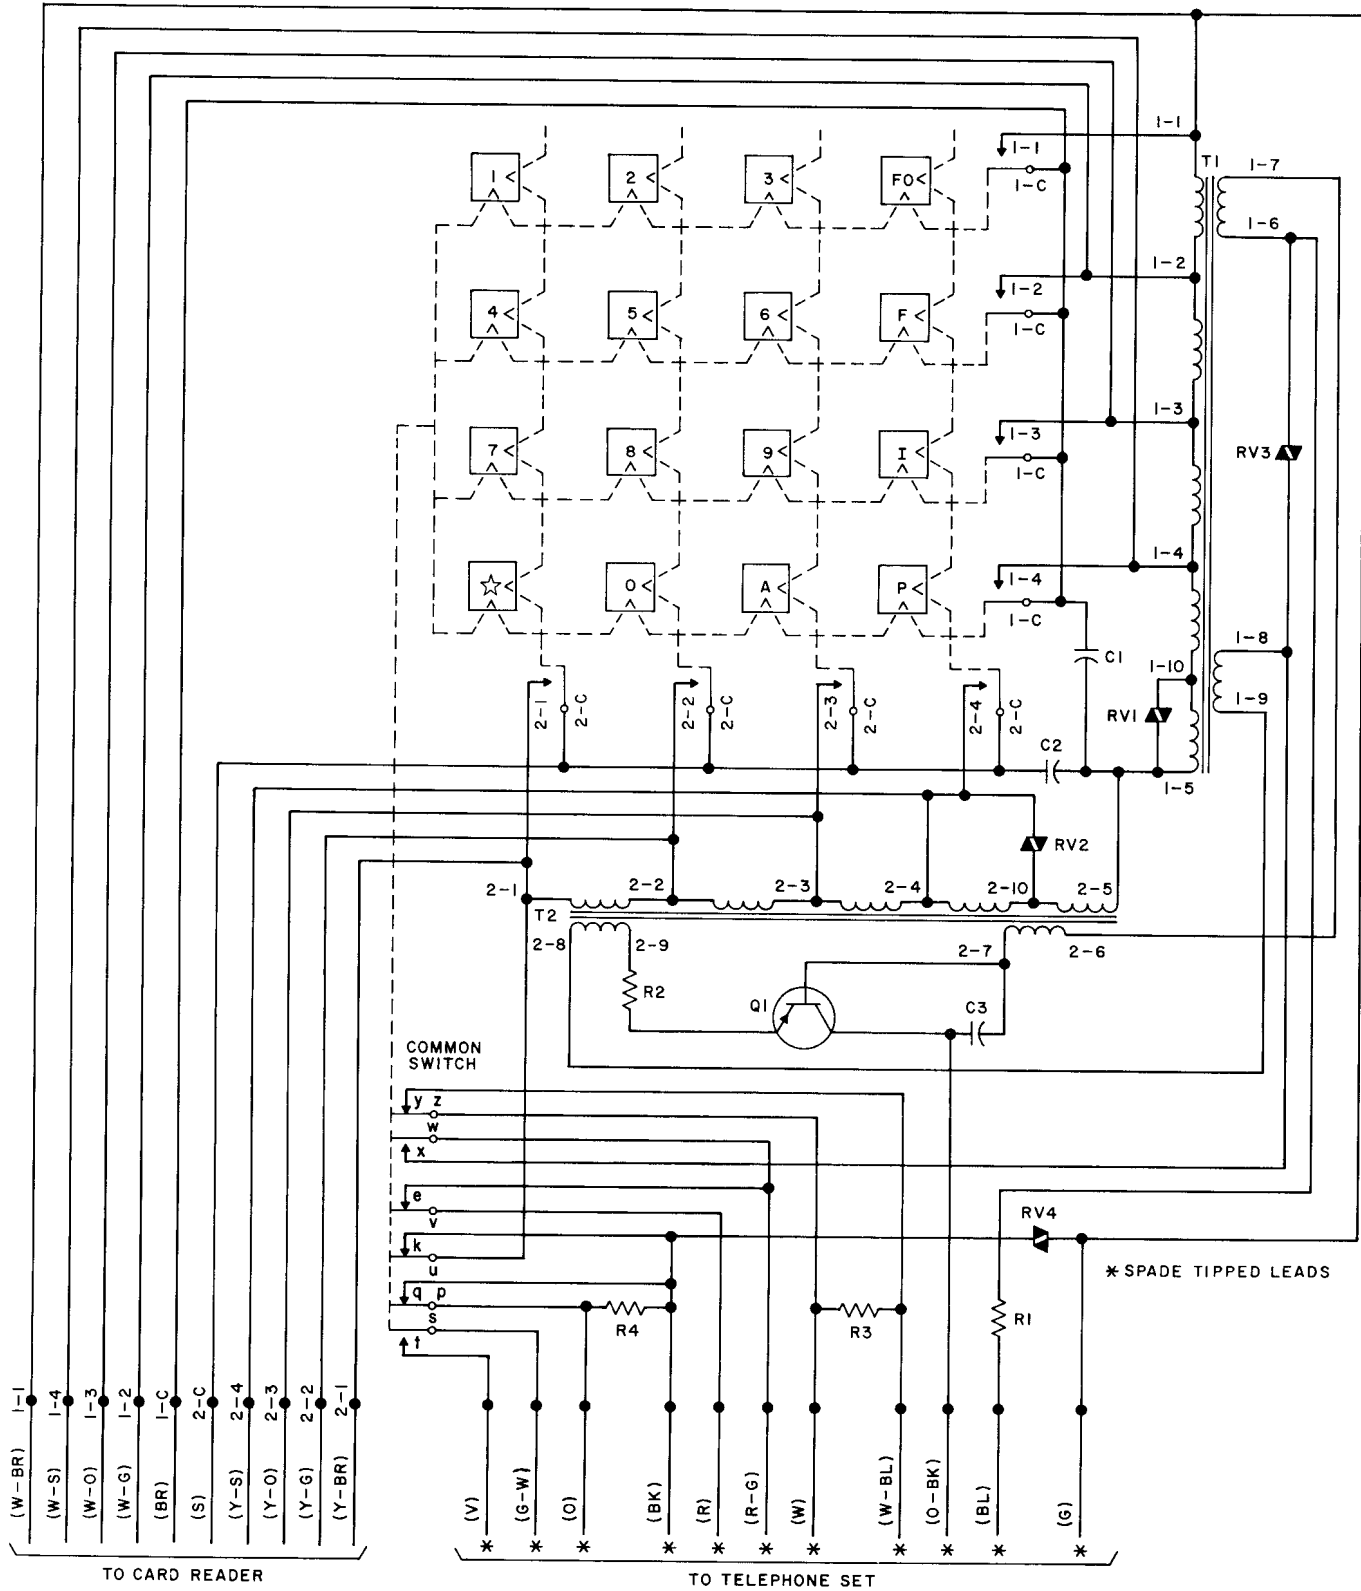

Fig. 10 — 66B3A Dial — Wiring Schematic
- Fig. 10 — 66B3A Dial — Wiring Schematic